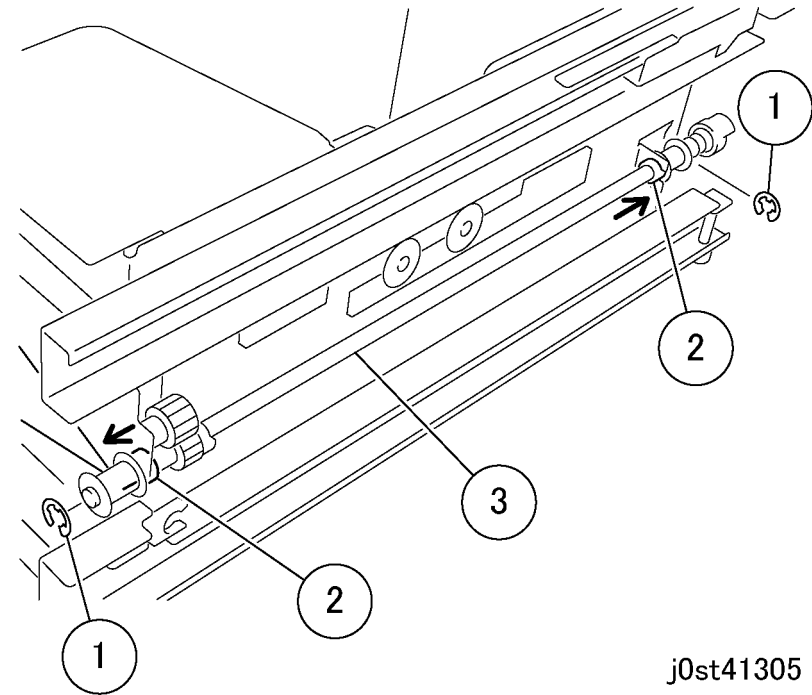

Figure 3 Removing the Left Shaft Assembly to remove the Tray Cable (j0st41305)
4. Remove the Left Shaft Assembly to remove the Tray Cable. (Figure 3)